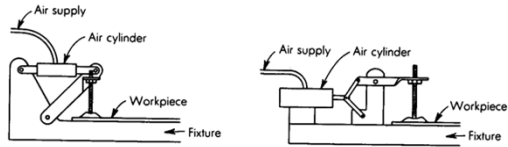

Figure 10-18. Air-actuated clamping methods.
- In some cases, setup blocks may be used in place of a locating land (Figure 10-18).